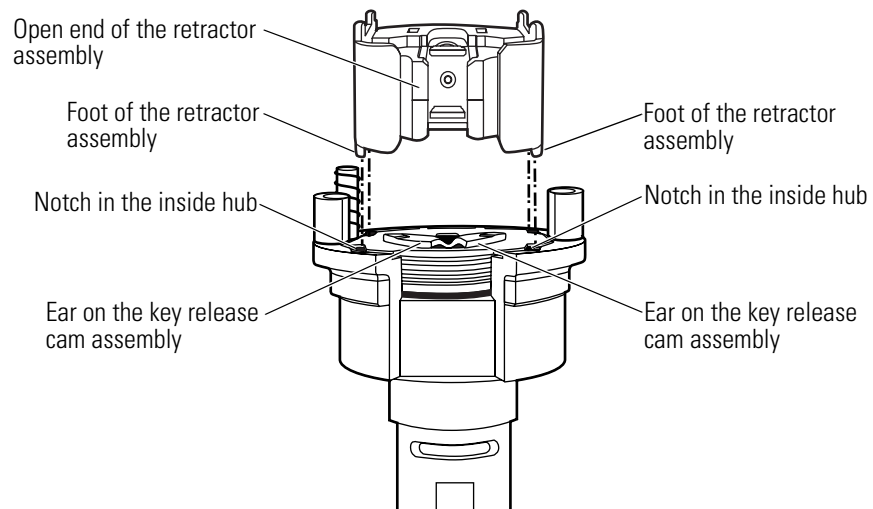

Figure 3.22 Positioning the retractor assembly
7. Press the retractor toward the retractor springs and insert the feet of the retractor assembly into the notches in the inside hub, as shown in Figure 3.22.